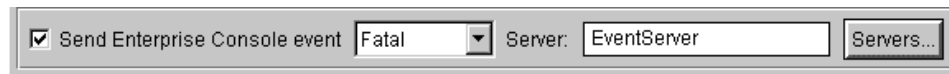

Figure 278. Selecting the TEC server
10. To send this event to our TEC server, click on the **Send Enterprise Console event** checkbox. Choose a severity level of **Fatal** from the list as shown in Figure 278.